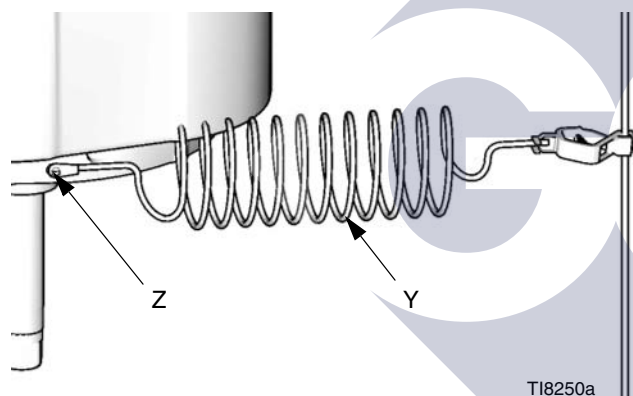

FIG. 1
**Pump:** Use a ground screw (Z) and lockwasher on the motor to attach ground wire 244524 (Y). Tighten the screw securely. Connect the other end of the ground wire to a true earth ground. See FIG. 1.